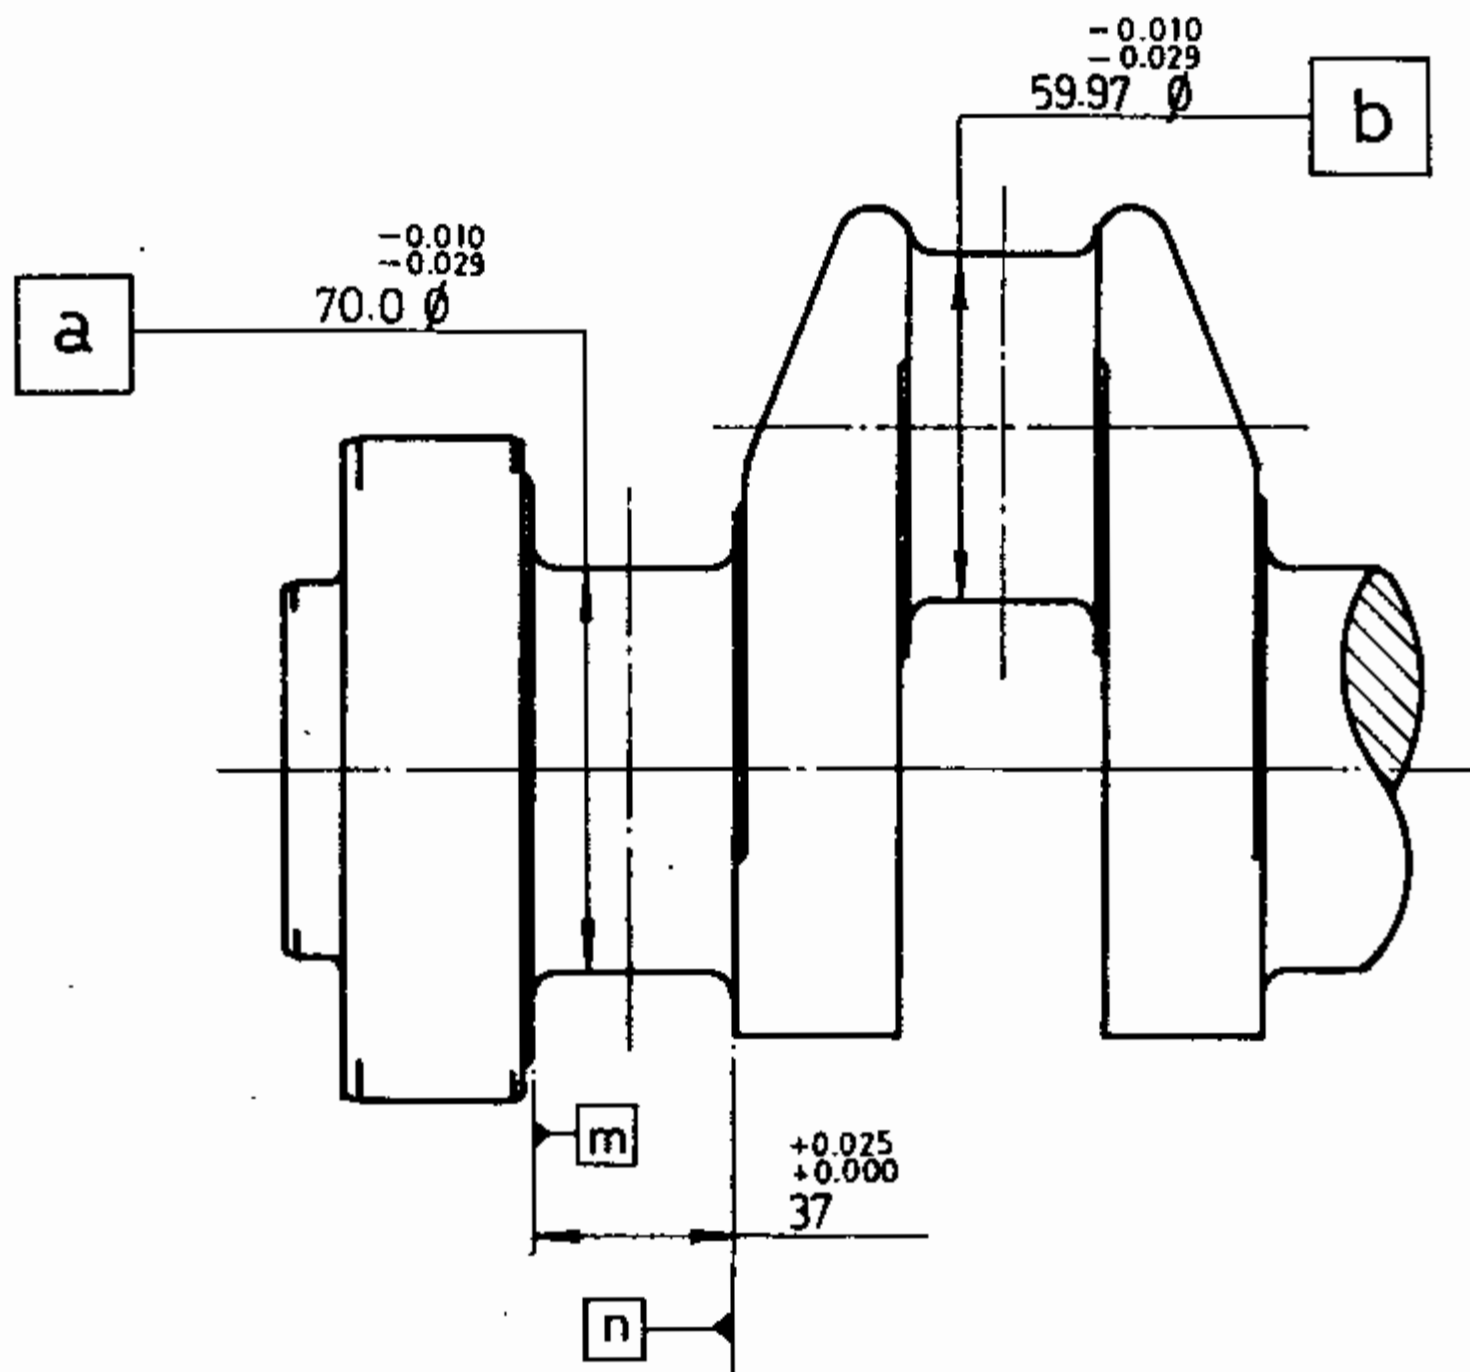

FIG. 5-23
Note all the readings in a tabular form and compare with the specifications. For details like straightness, out of roundness, parallelity of journal and pins. Please note that wear limit for ovality is 0.02 mm. Check all journals for dial trueness. Standard dimensions of main journal, big end journal and width of journal for thrust bearing are shown in Fig. 5-23.
- 5.5.5 Measure the width of the side faces for locating bearing, in the crankshaft. (Refer Fig. 5-23 of Sect. 5.4.5).